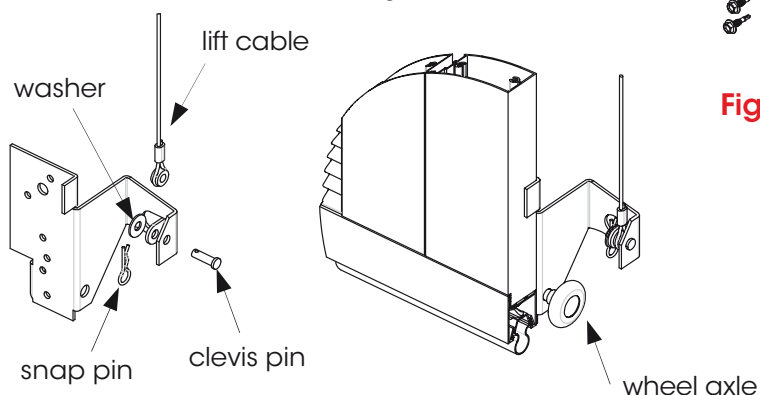

Fig: 5.1.2
- Attach the lift cable to the bottom hanger using a clevis pin, washer and snap pin. Fig 5.1.2
- Insert the wheel axle through the bottom hanger and bottom panel bracket. Fig 5.1.2.